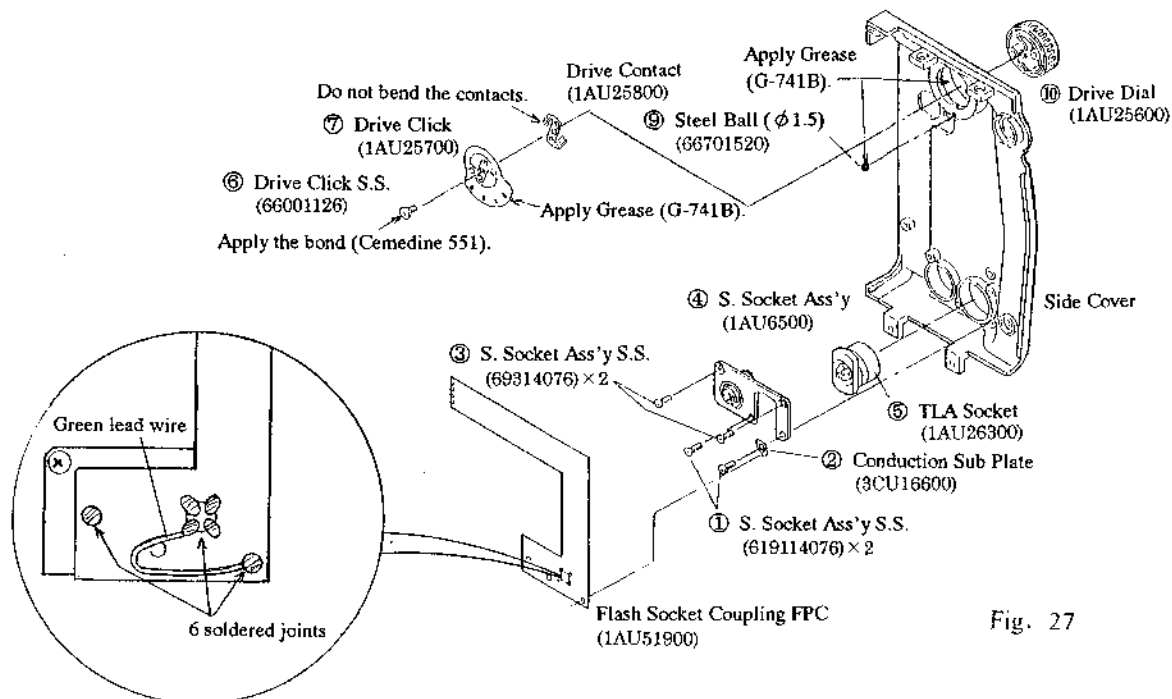

Fig. 27
- 2) Remove the parts in the numerical order of ① to ⑩ as shown in Fig. 27.